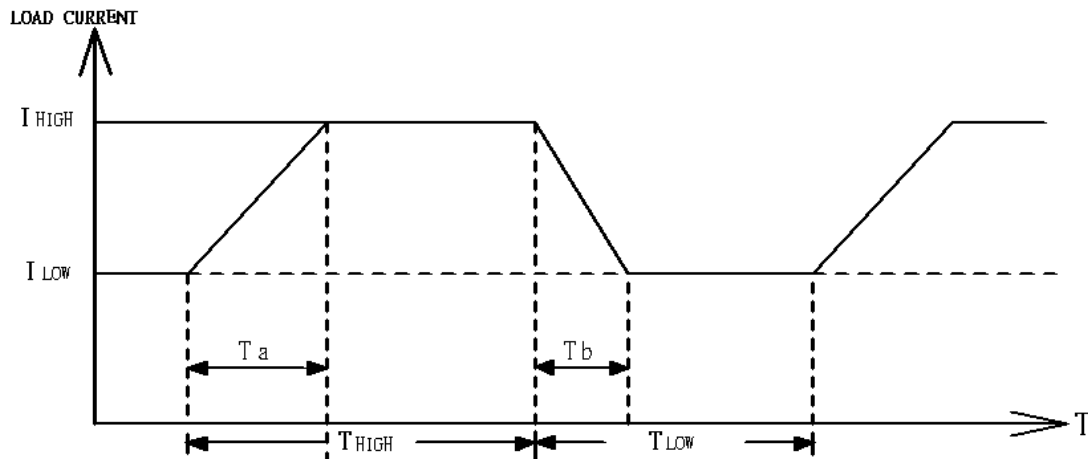

Fig 4-4 Dynamic load current with independent programmed Rise/Fall slew rate
4.3.2.1 Built-in Pulse generator: (Fig 4-4)
4.3.2.2 Analog programming input: (Fig 4-4) (Please use the CC Mode Range II)